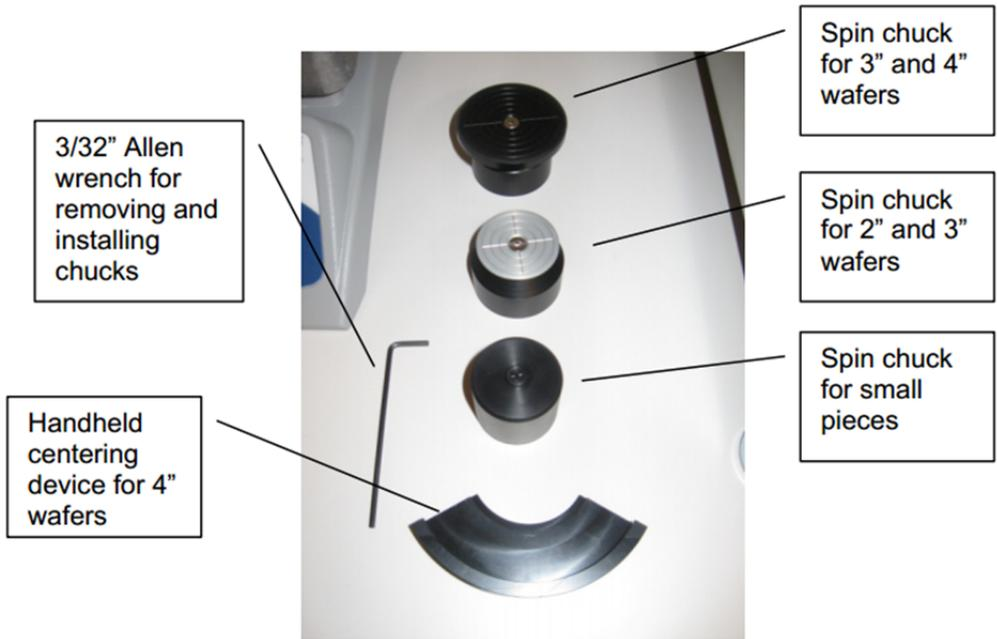
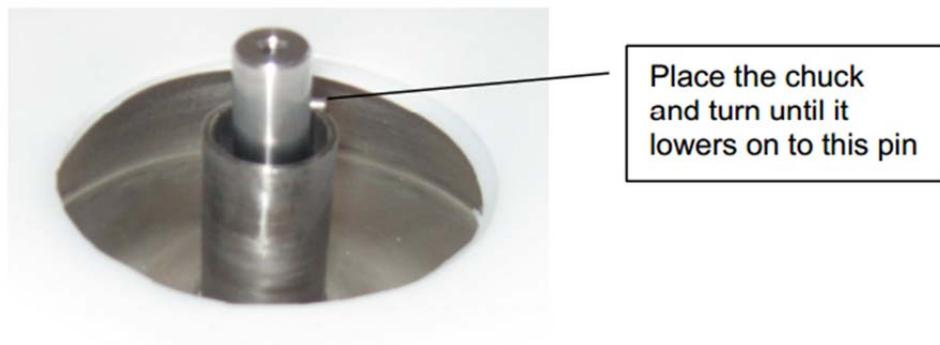
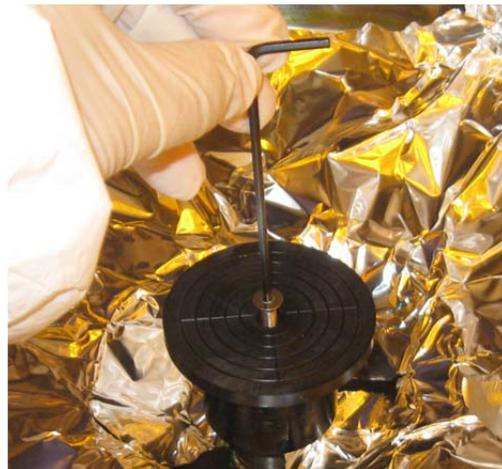

Figure 5
Figure 6
Figure 7
2. Choose the right spin chuck for your sample (Figure 5). Your sample should cover all the vacuum grooves and holes on the spin chuck. Install the spin chuck by aligning the pin on the spinning rod to the inside notch in the spin chuck (Figure 6). Tighten the screw if it is needed (Figure 7).